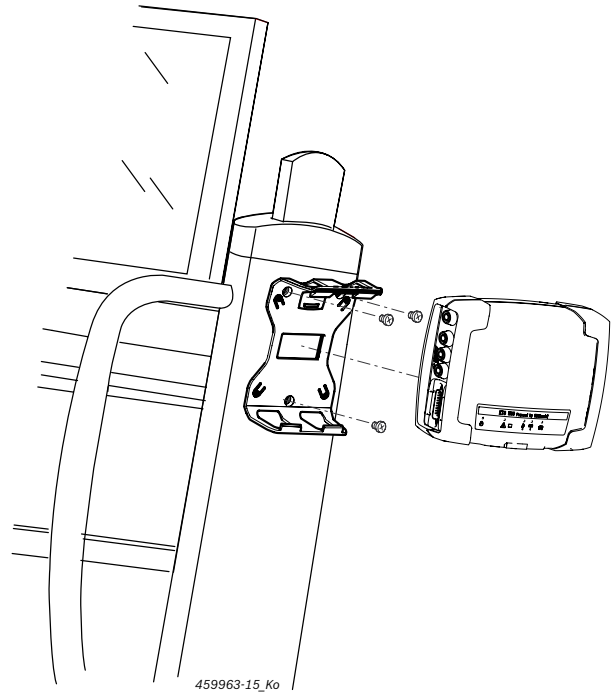

Abb. 7: Fitting the mounting bracket
1. Using the oval-head screws included with the delivery, fasten the mounting bracket to the trolley (fig. 7).